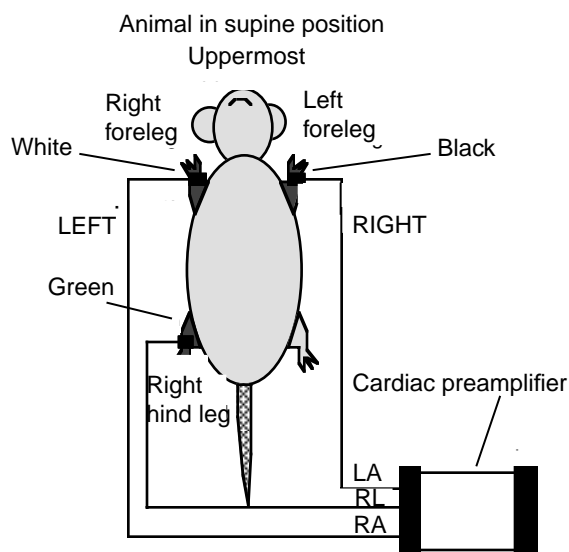

Figure 106. Electrodes Connection
clipping the electrode leads directly to the animal. A diagram showing the connections to the animal and cardiac preamplifier is shown in **Figure 106**.
3. Attach the electrodes to the forelegs and the right hind leg of the animal. Connect these electrodes to the cardiac electrode leads. It is important to connect the ground (green) lead to the hind leg of the animal. **Figure 106** on **page 215** shows the proper electrode connection pattern. The polarity switch of the PGM-1000 receiver can be used to correct the sign of the ECG signal if the leads to the forelegs are connected in the reverse sense. Bring the electrode lead wires from the underside of the animal bed so that they can be taped to the bed surface, to prevent the wires from moving during the experiment. Securely tape the animal's limbs and electrode clips to the animal bed. These precautions minimize the disturbance observed in the ECG signal, due to small motions of the subjects limbs and vibrations of the electrode leads.